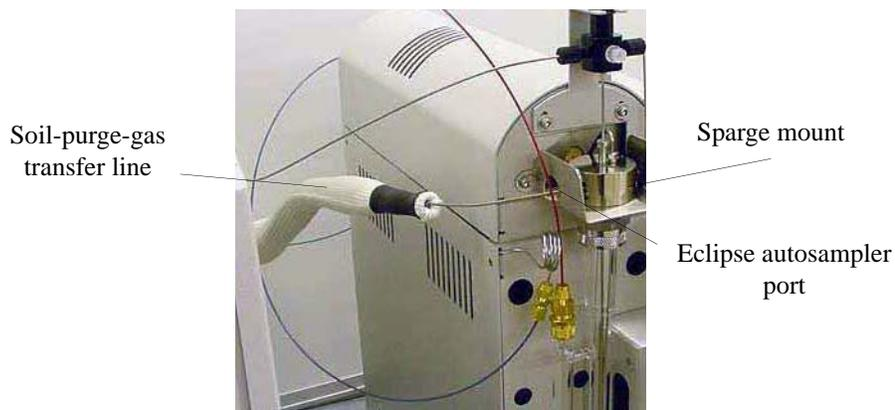

Figure 3.6. Soil-purge-gas transfer line attached to the sparge mount
- Unscrew the $\frac{1}{16}$ " Valco plug from the left side of the Eclipse sparge mount. Install the $\frac{1}{16}$ " fitting (PN 225557) and $\frac{1}{16}$ " ferrule (PN 112433) supplied in the interface kit onto the end of the soil-purge-gas transfer line (Figure 3.6).